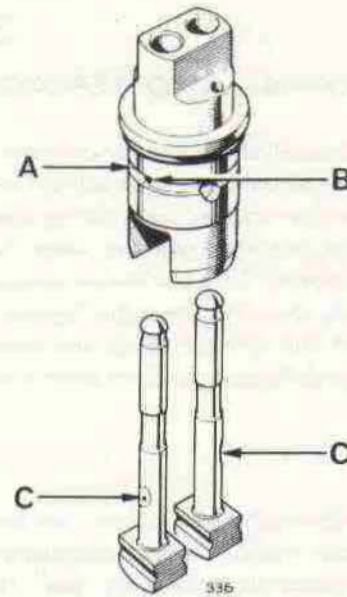

Fig. B17. Showing the correct method of assembly of the exhaust tappets
The correct method of assembly of the tappets is shown in Fig. B17. The machined cutaway faces (C) should be facing the outside of the tappet guide block, i.e. the tappets must not be fitted with the cutaways facing one another, otherwise the oil holes (B) drilled in the annular groove of the tappet block (A) will not be able to supply lubricant to the tappets.